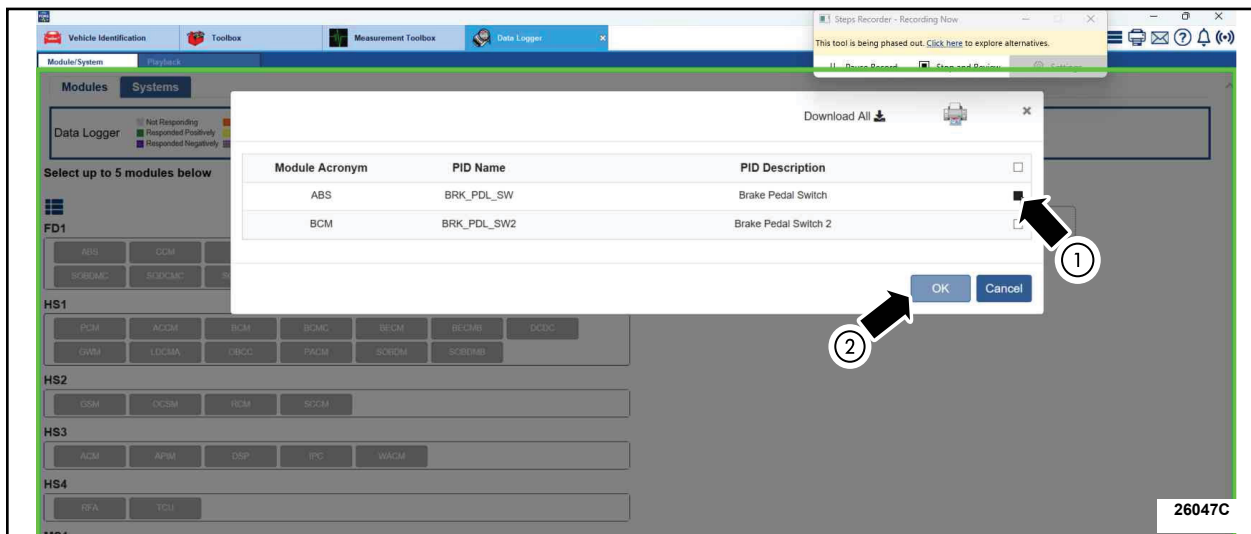

FIGURE 3
7. Select the box for Brake Pedal Switch (1) and select OK (2). See Figure 3